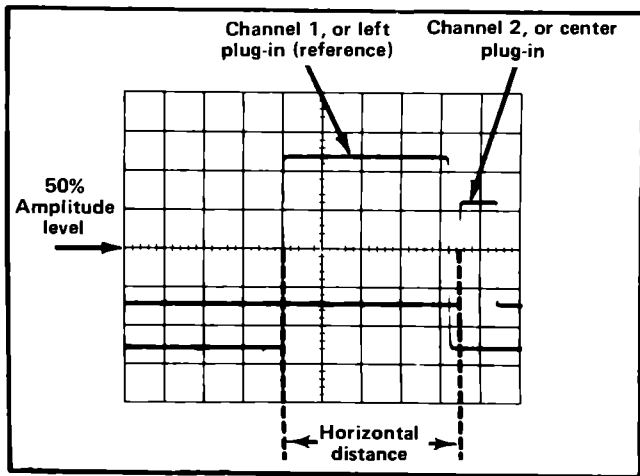

Fig. 2-10. Measuring time difference between two pulses.
10. Measure the horizontal distance between the two measurement points (see Fig. 2-10).